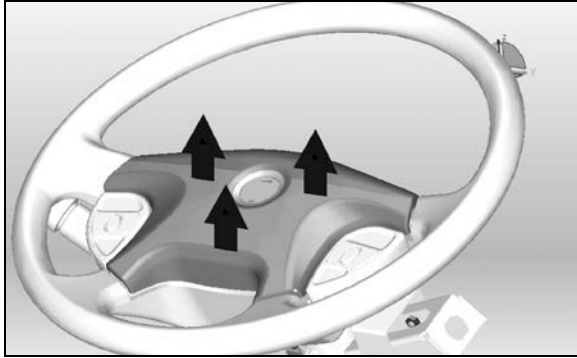

FIGURE 11: REMOVING THE HORN PAD
2. Pull the horn pad straight up gently to detach it from the steering wheel (Fig. 11).